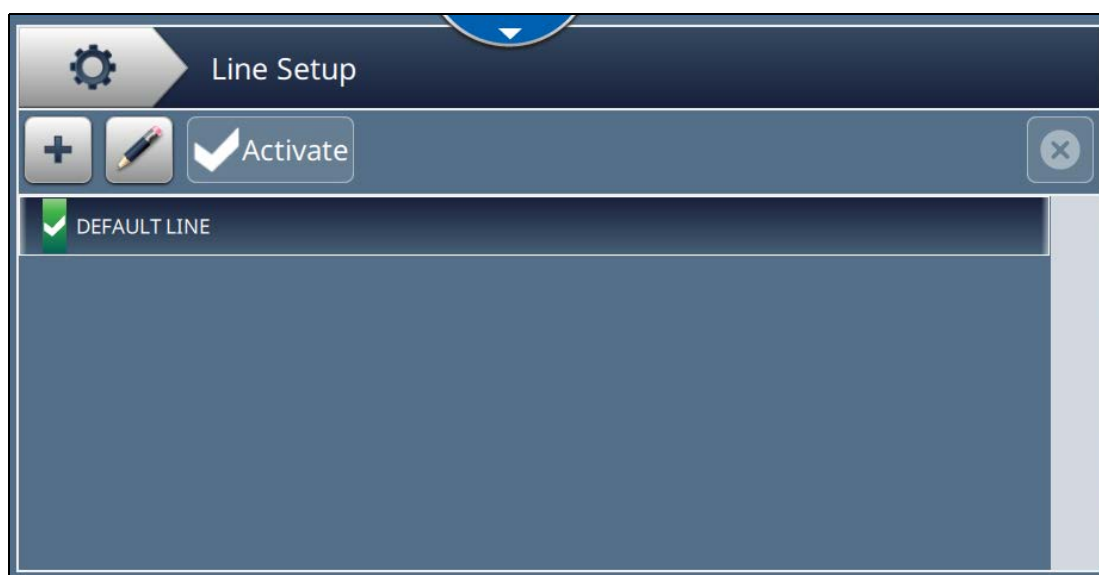

Figure 6-27: Line Setup Screen
2. Touch the  button on the Line Setup screen to create a new line setup as shown in Figure 6-27. Line Setup Name screen opens with an utility keypad.